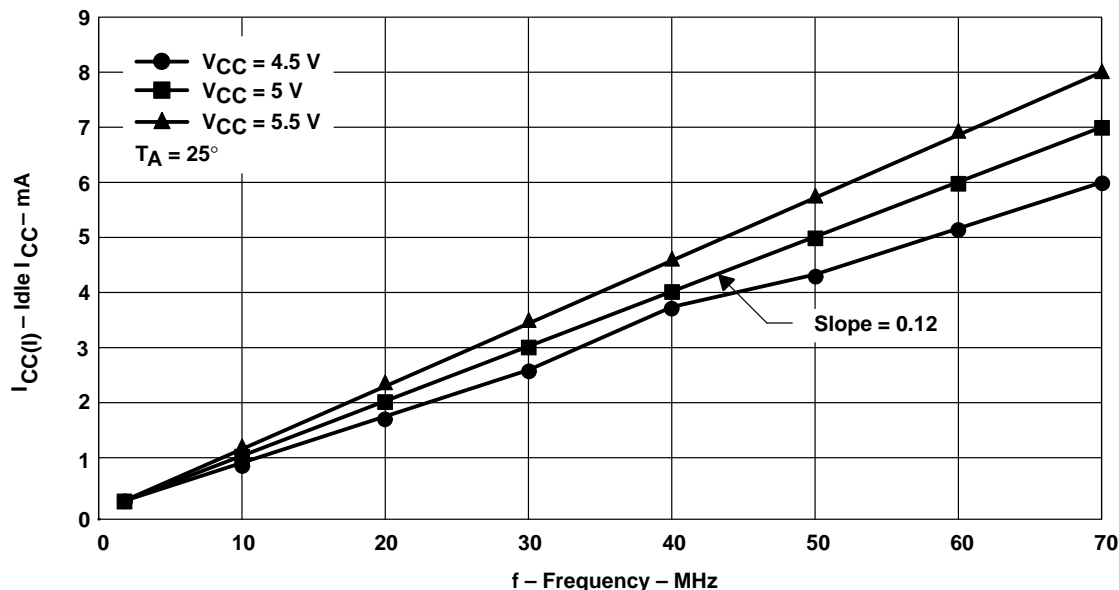

Figure 7. SN74ACT7803 Idle I_{CC} With RDCLK or WRTCLK Switching
- $I_{CC(l)}$ = idle I_{CC} maximum (see Figure 7)